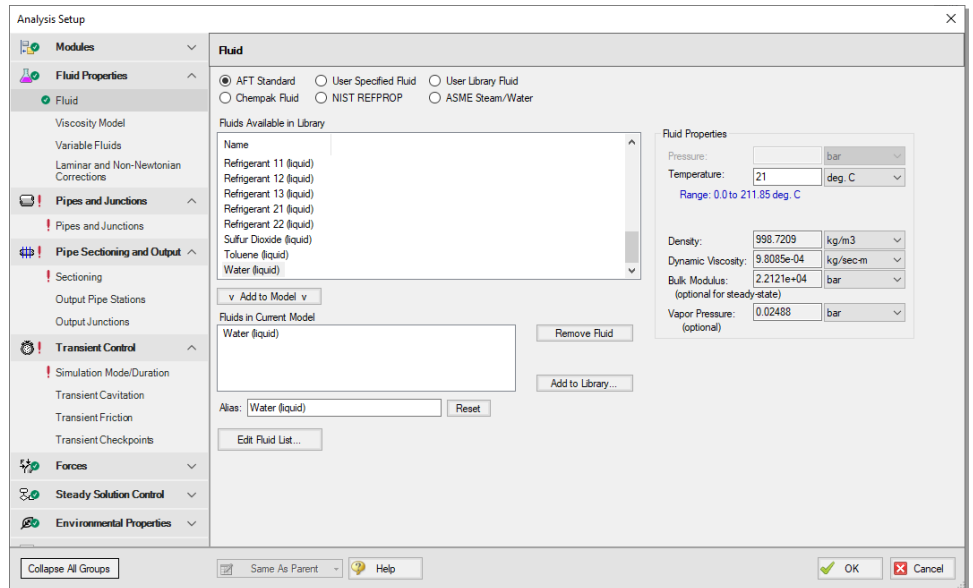

Figure 2.11 The Fluid panel is where you specify the fluid
- **Select the AFT Standard library and select Water (liquid)** in the Fluids Available in Library list, then click the “Add to Model” button. Enter a temperature of 21 deg. C. This satisfies the required inputs for the Fluid panel and Fluid Properties group. This Fluid panel should appear as shown in Figure 2.11.